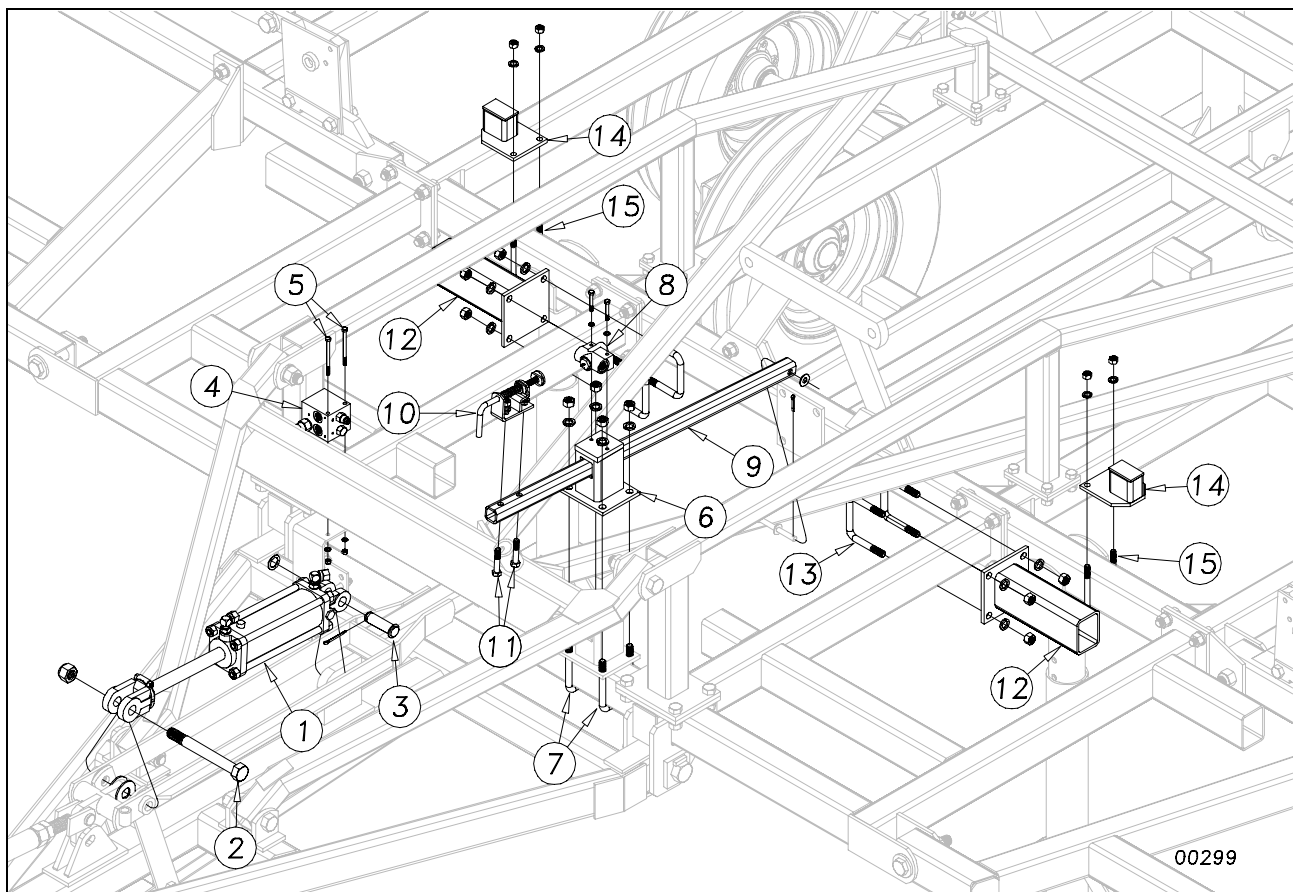

Figure 7
Connect the center master cylinder (1) to the hitch frame as in Figure 7. Connect the rod end to the level bar cylinder mount and the H-bracket. Place two 1" flat washers on the inside of the cylinder clevis. Use the 1 x 9 GR8 bolt (2) and nylon lock nut but **do not torque.**